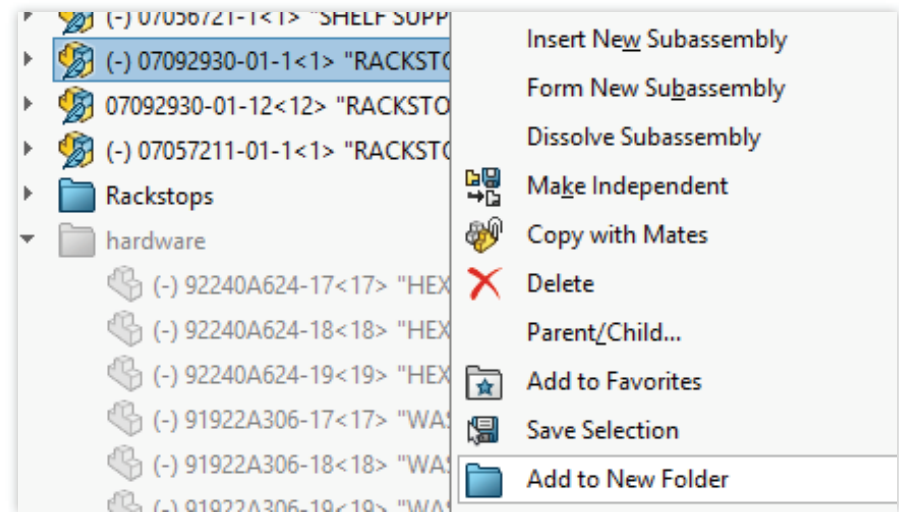

Fig. 25
1. To create a folder, highlight one of the components you want to place in the folder. See Fig. 25.
2. Right click and select **Add to New Folder**. See Fig. 25.